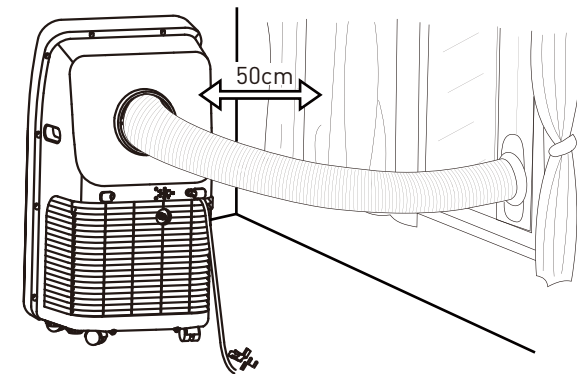

Fig. 4
- 1.) Place the machine on flat and dry ground, and keep it far from around things at least 50cm. (as shown in Fig 4)